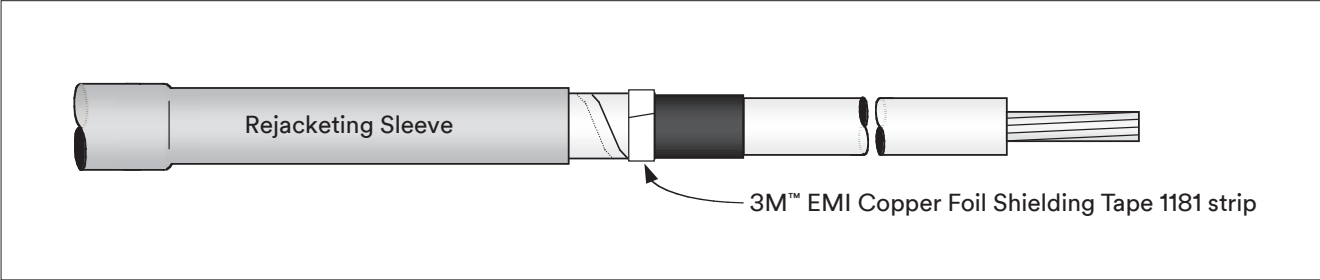

Figure 19
6.2 Secure cable copper shield ends with 3M™ EMI Copper Foil Shielding Tape 1181 strip (Figure 19).